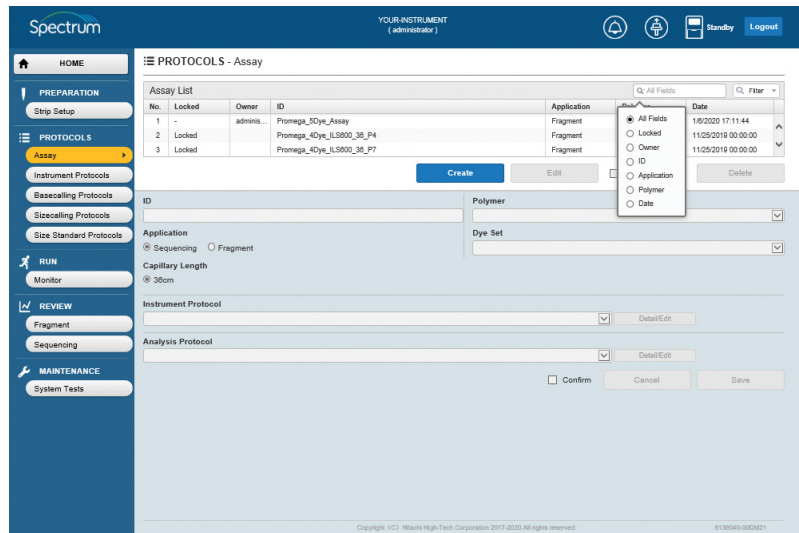

Figure 77. Assay List select search field radio button window.
- Data in the Assay List may be searched and filtered (i.e., searched for based on specific values and filtered such that only assays that meet those criteria are displayed in the Assay List). Select the magnifying glass icon on the Select Search Field box to display a window with radio button selections that allows you to search by All Fields, Locked, Owner, ID, Application, Polymer or Date (Figure 77).